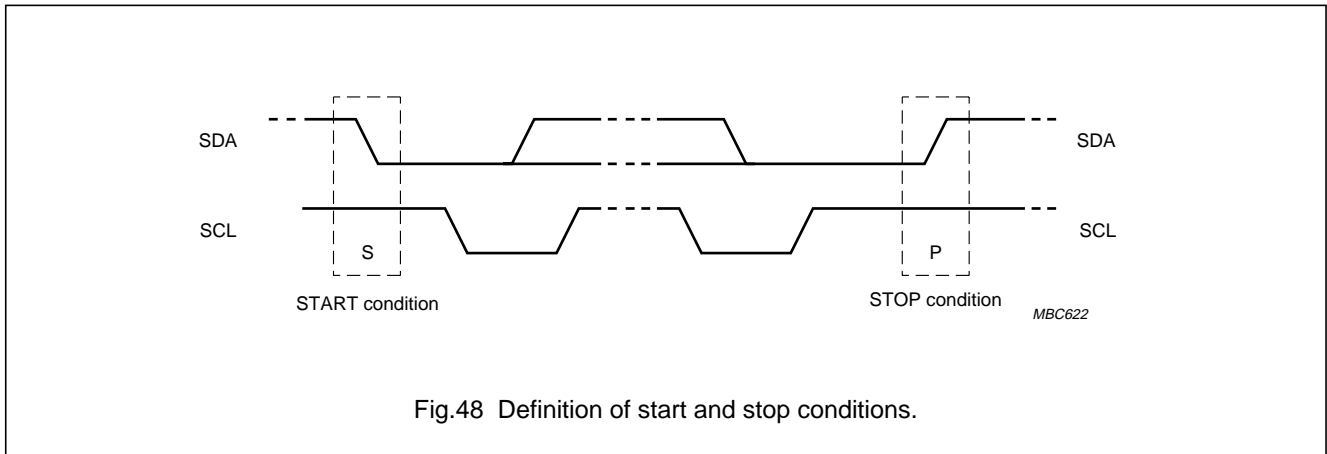

Fig.48 Definition of start and stop conditions.
Both data and clock lines remain HIGH when the bus is not busy (see Fig.48). A HIGH-to-LOW transition of the data line, while the clock is HIGH is defined as the START condition (S). A LOW-to-HIGH transition of the data line while the clock is HIGH is defined as the STOP condition (P).